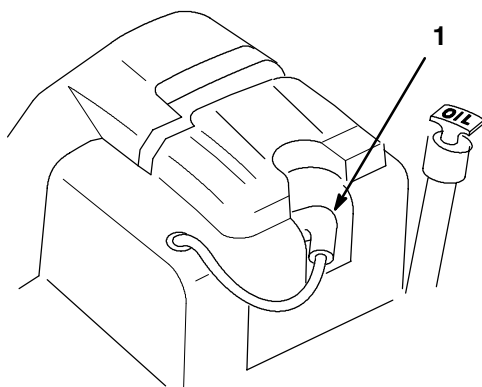

Figure 24
3. Pull the wire(s) off the spark plug(s) (Fig. 24). Now clean around the spark plug(s) to prevent dirt from falling into the engine and potentially causing damage.
3. Push the wire(s) onto the spark plug(s) (Fig. 24).